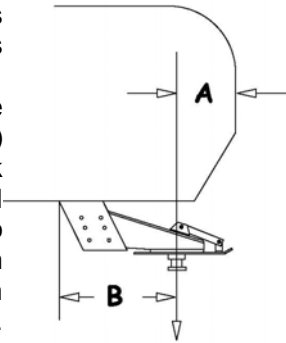

Figure 3
- 1) There is no assembly required except to attach the **Base Rails** (1) to the base feet of the hitch **Base** (F1) using the four ½” **Base Rail Pins** (G12) and four **#3 Pin Clips** (G3).
- 4) As a general rule, for the SuperGlide hitch to maintain proper clearance to the truck, the leading edge of the trailer (measured at the corner) should be even with the center of the king pin. (**Figure 3**). **Most** truck trailer combinations will allow 102” wide trailers if the king pin is located properly for each application. Narrower trailers will allow the king pin to be “tucked” under the trailer over hang to some extent. For each different vehicle make, the location of the hitch center (king pin location) relative to the center of the vehicle rear axle is different. Included with each individual installation instructions is a table showing the cab clearance of different width trailers. These tables do not take into account radiused corners (which add to clearance) or contours of the trailer that could also add to clearance. **Consult these tables prior to installation of the hitch.** Call PullRite technical support with trailer width, make and year of truck and distance the king pin is from leading edge of the trailer if you have any questions. 1-800-443-2307
- 5) Using a trailer that has a long rear slope to the King Pin Box Hangar, (“B” in Figure 3), may cause damage to the trailer or truck bed during turns. **Dimension “B” must be less than one half the width of the inside top edges of the bed.** Please call PullRite technical support, 1-800-443-2307, if more information concerning this problem is needed.